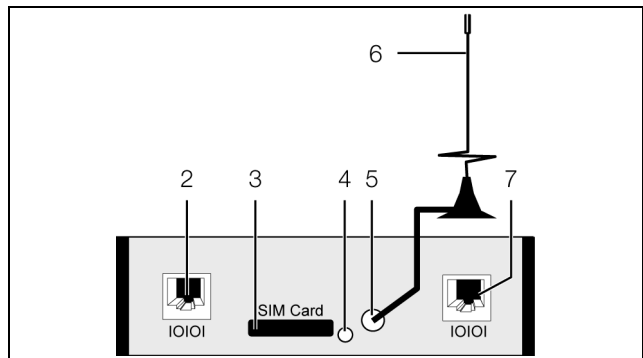

Fig. 9: Rear of the GSM unit
- 2 Connection of the CMC III Processing Unit RJ 12/RS 232, 24 V  $\overline{\text{---}}$ , 500 mA (alternative to item 7)
- 7 Connection of the CMC III Processing Unit RJ 12/RS 232, 24 V  $\overline{\text{---}}$ , 500 mA (alternative to item 2)
- Press the button to eject the SIM card (fig. 9, item 4). The SIM card holder will be ejected from the chassis (fig. 9, item 3).
- Screw the aerial into the relevant connection at the rear of the GSM unit (fig. 9, item 5).
- Connect the GSM unit to the CMC III Processing Unit using an RJ 12 connection cable (fig. 9, item 2 or item 7).